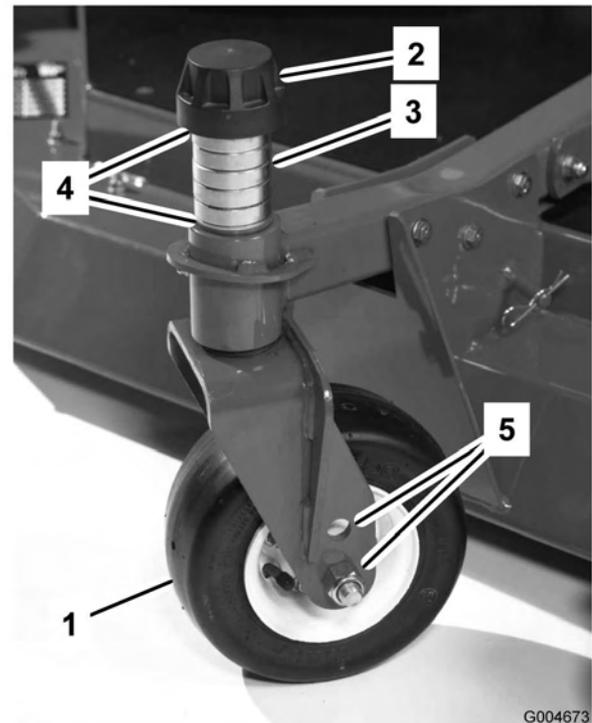

Figure 87
1. Remove the tensioning cap from the spindle shaft and slide the spindle out of the castor arm (Figure 87). Reposition the shims, as required, to raise or lower the castor wheel until the cutting unit has the correct pitch.